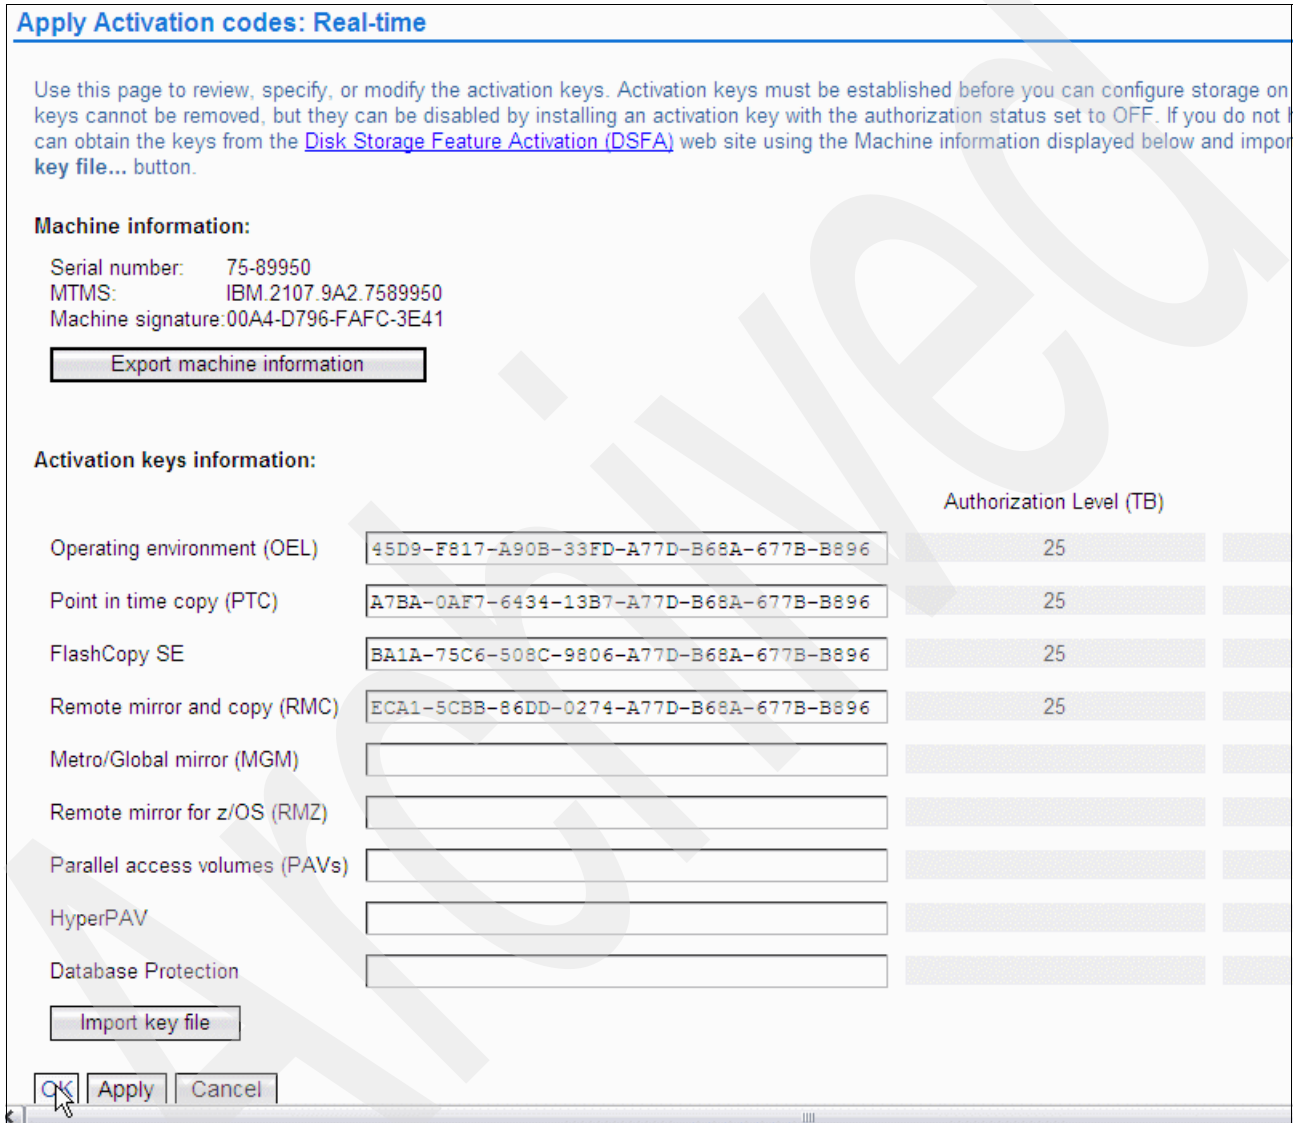

Figure B-6 Entering the activation codes
7. Enter the DS8000 Licensed Internal Code feature activation keys that you retrieved from the Disk storage feature activation Web site. Either manually type the keys or import the key file from your PC. Then click **OK** to continue (see Figure B-6).